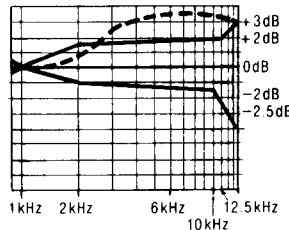
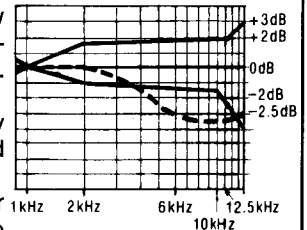
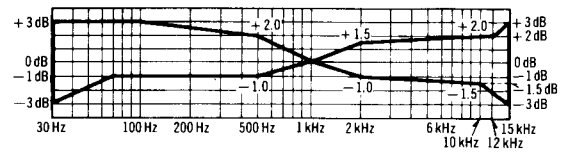

Fig. 13
Fig. 14
Fig. 12
6. Playback the signals recorded in step 5, and check if the frequency response curve is within the limits shown in the overall frequency response chart for normal tapes (fig. 12). (If the curve is within the charted specifications, proceed to steps 7, 8 and 9.)
When the curve exceeds the overall specified frequency response chart (fig. 12) as shown in fig. 13.
- 2) Repeat steps 5 and 6 for confirmation (Proceed to steps 7, 8, 9 and 10 if the curve is now within the charted specifications as shown fig. 12.)
- 3) If the curve still exceeds the specifications (fig. 12), increase bias current further and repeat steps 5 and 6.
When the curve falls below the overall specified frequency response chart (fig. 12) as shown in fig. 14.
- 2) Repeat steps 5 and 6 for confirmation (Proceed to steps 7, 8, 9 and 10 if the curve is now within the charted specification as shown fig. 12.)
- 3) If the curve still falls below the charted specifications (fig. 12), reduce bias current further and repeat steps 5 and 6.